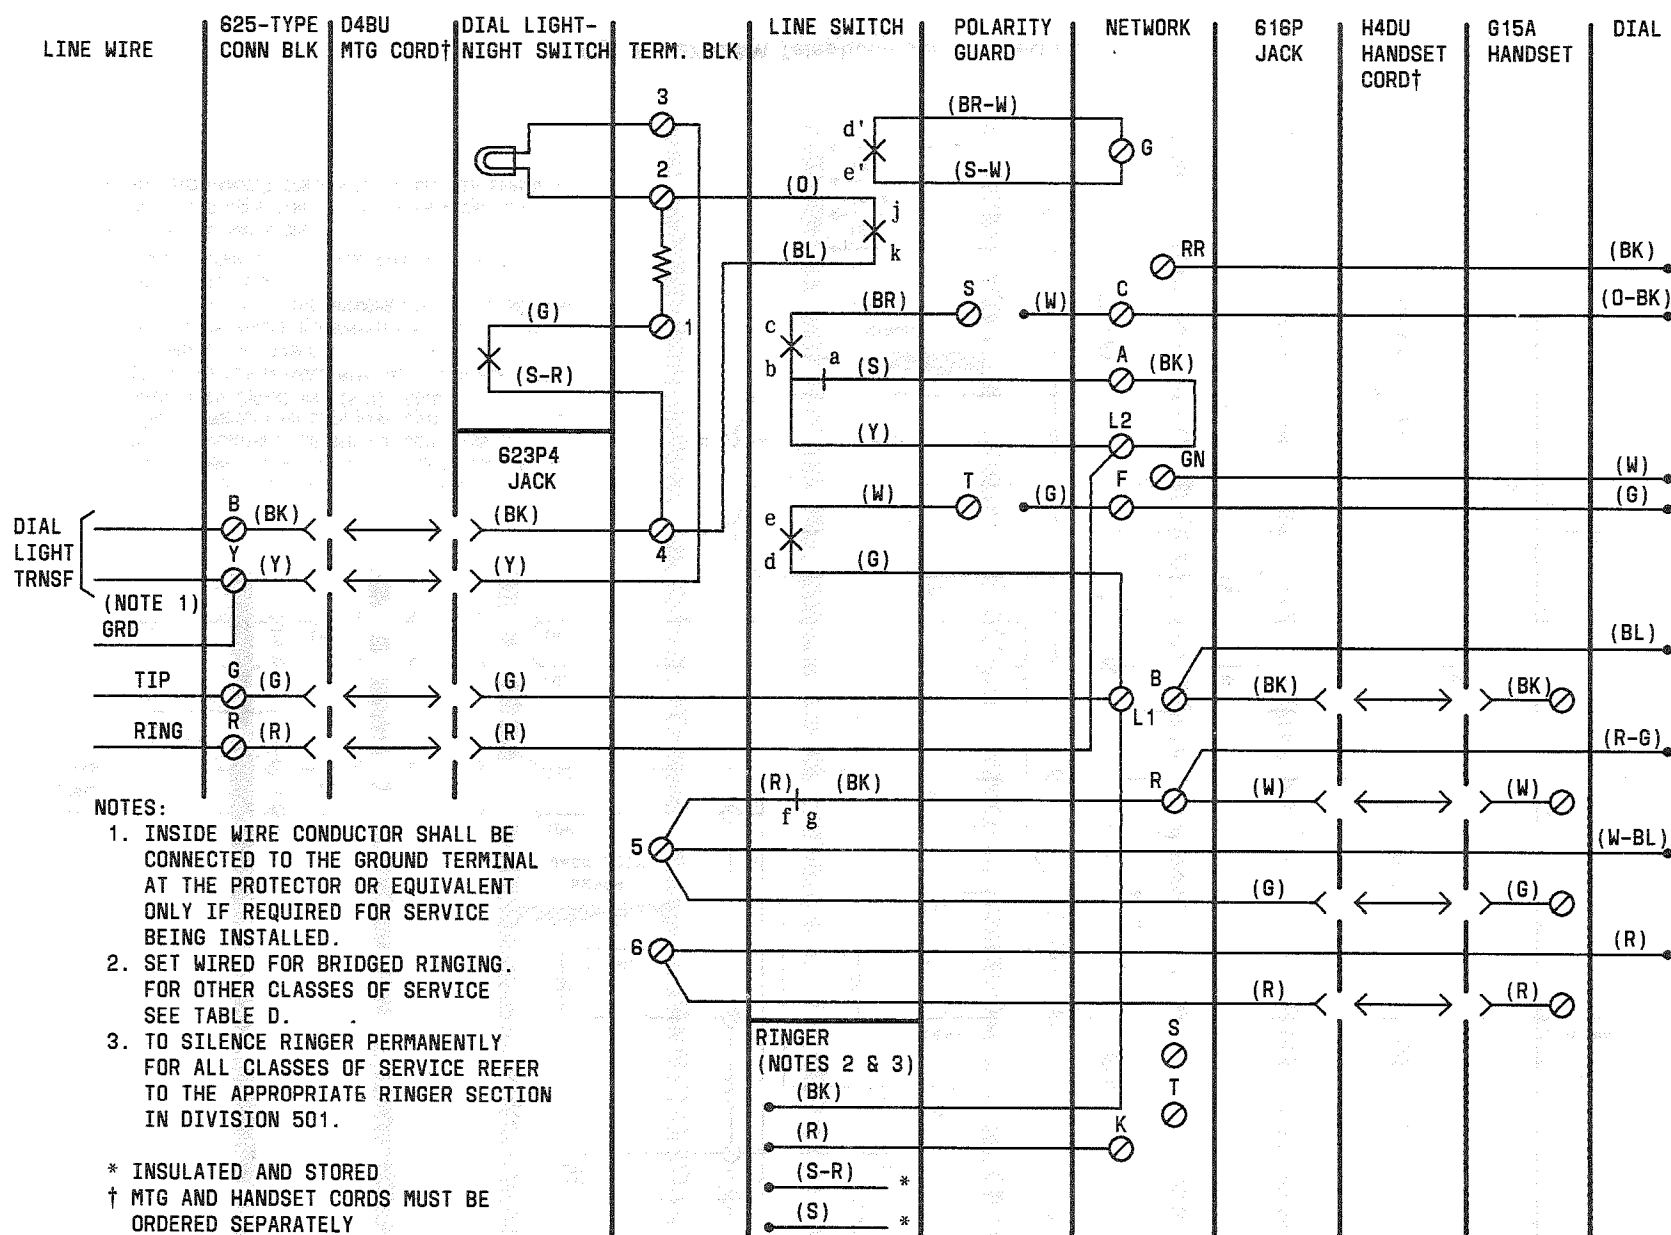

Fig. 3—2702BMG Telephone Set, Connections
- Revise Fig. 3 for clarity.
1.03 If a polarity guard is required in a 2702B (MD) or 2702BM set, refer to Table A for connections and Section 502-703-100 for installation information.